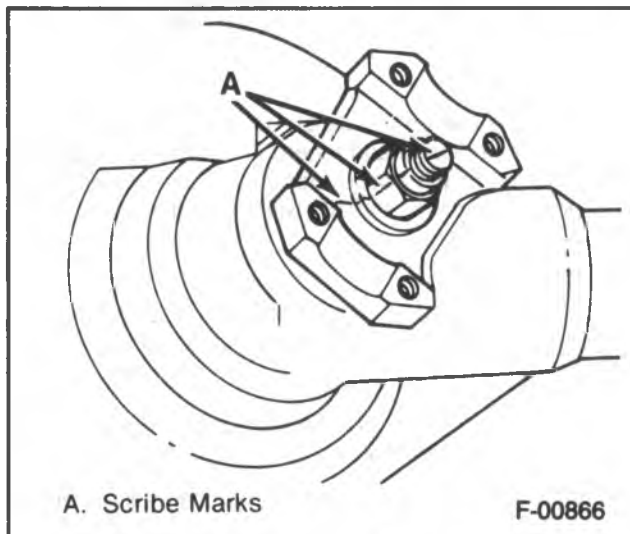

Figure 18 — Scribed Marks
Scribe a line on the pinion stem (A), pinion nut and the pinion flange and record the number of exposed threads on the pinion stem. The scribed reference and the exposed threads will be used as an installation guide (figure 18).